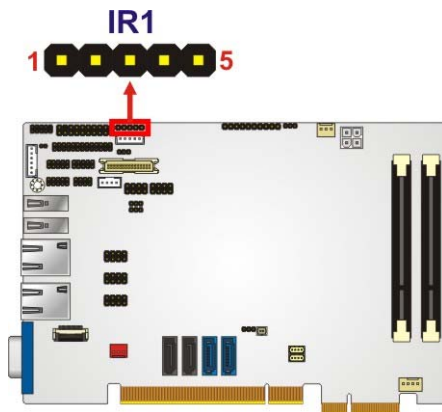

Figure 3-12: Infrared Connector Location
- CN Location:** See **Figure 3-12**